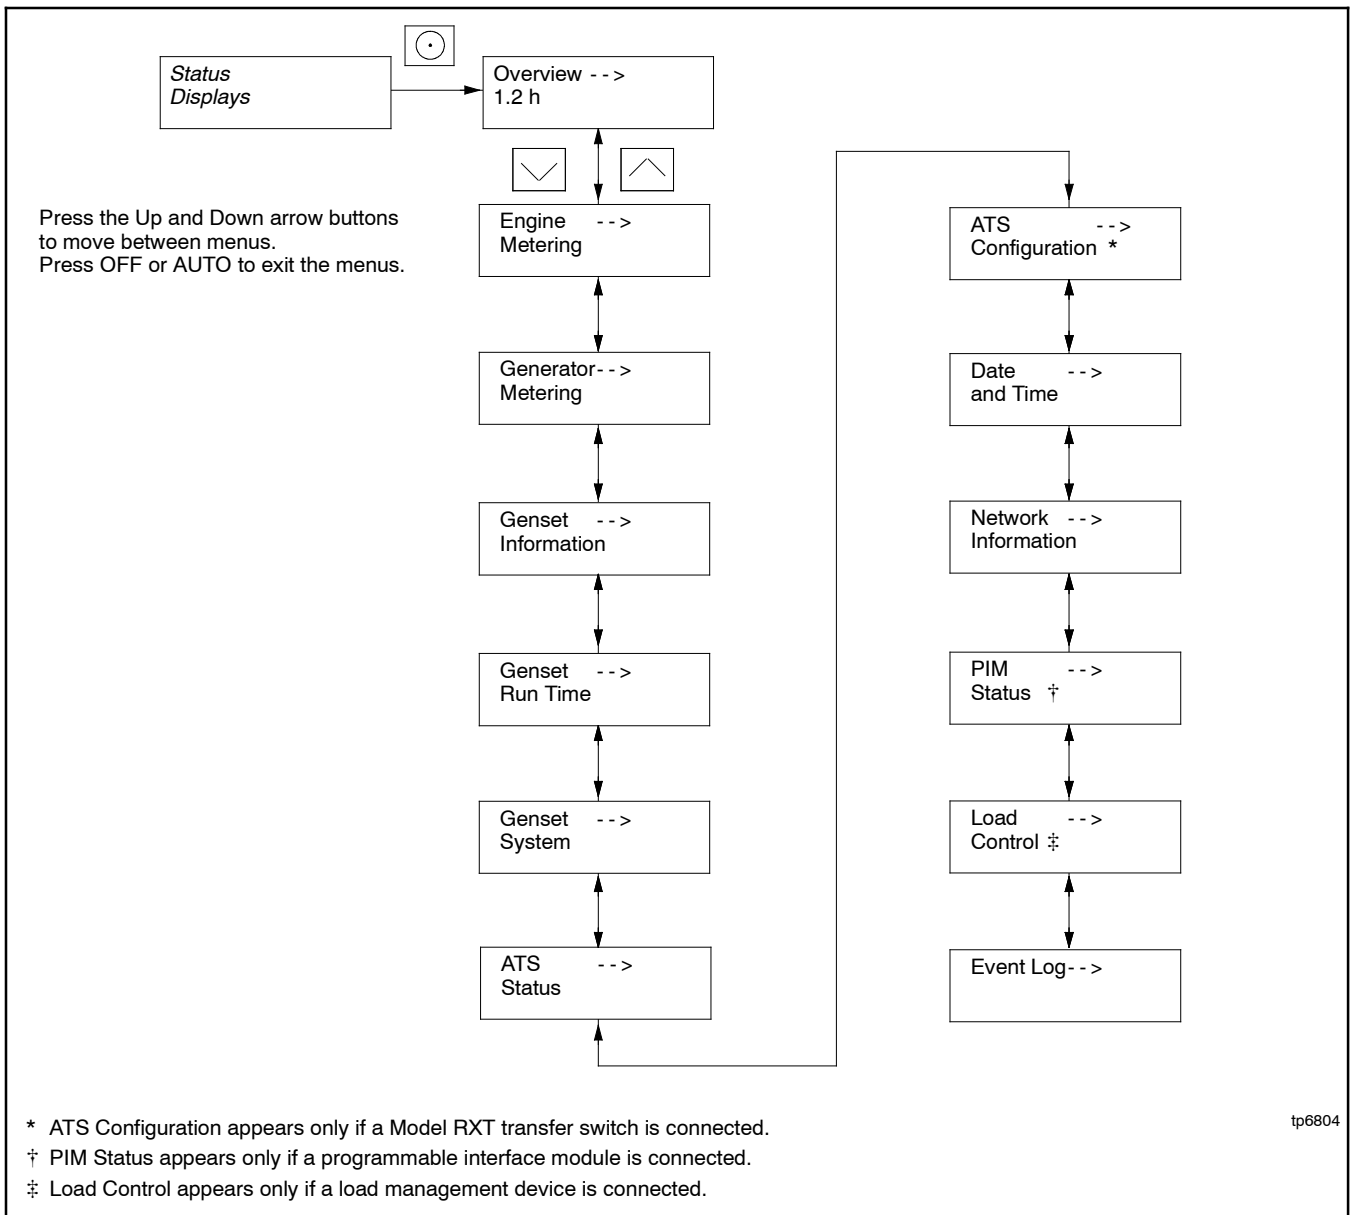

Figure 3-9 RDC2 Main Menu
2. Press the down arrow button until the desired menu is displayed. The Genset System menu is used for this example. See Figure 3-9.
2. Press the down arrow button until the desired menu is displayed. See Figure 3-9. Date and Time are used for this example.
2. Press the Select button to go to the main menu. See Figure 3-9.
Press the Select button once to bring up the main menu. Overview is displayed. See Figure 3-9. Press the down arrow button to step to the next menu, Engine Metering. Use the UP and DOWN arrow buttons to step up and down through the menus shown in Figure 3-9.